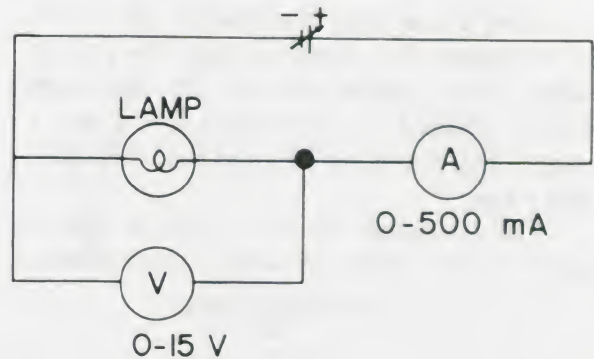

Figure 41.
1. Wire the circuit shown in Figure 41.